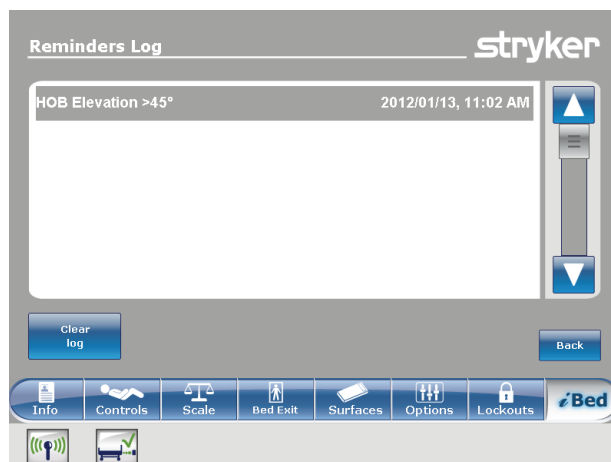

Figure 107: Reminders Log
**View reminders log:** View a list of reminders and the values for the date, time, and reminder that was logged (Figure 107 on page 97).
**Have done / Will do the necessary action:** Tap to acknowledge that the protocol reminder action has been performed on the patient. The reminder alarm is disarmed, and the reminder is logged (Figure 107 on page 97).
**Did not / cannot do the necessary action:** Tap to explain why the protocol reminder action cannot be performed on the patient. The reminder is not disarmed, and the reminder is logged (Figure 107 on page 97).
The **Reminders Log** screen lists reminders and the values for the date, time, and reminder that was logged (Figure 107 on page 97).
To clear the highlighted reminder from the reminders log, tap **Clear log** (Figure 107 on page 97).
To return to the **Reminder** screen, tap **Back** (Figure 107 on page 97).